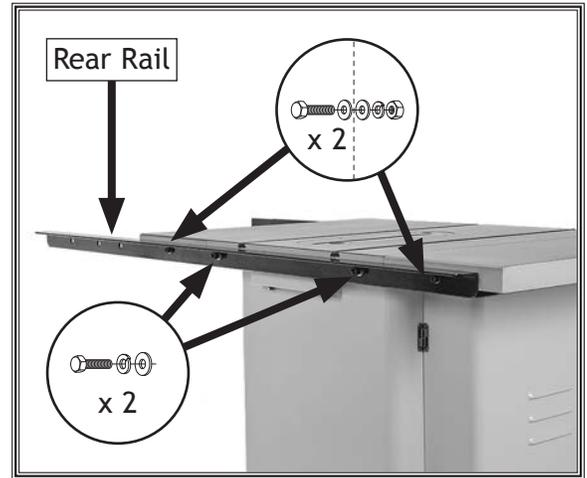

Figure 24. Rear rail installed.
14. Attach rear rail to main table using (2) M10-1.5 x 25 hex bolts, 10mm lock washers, and 10mm flat washers, as shown in **Figure 24**. Check to make sure rear rail is parallel to table and below miter slots before completely tightening hex bolts.
15. Secure rear rail to extension wings with (2) M10-1.5 x 35 hex bolts, (4) 10mm flat washers, (2) 10mm lock washers, and (2) M10-1.5 hex nuts (see **Figure 24**).